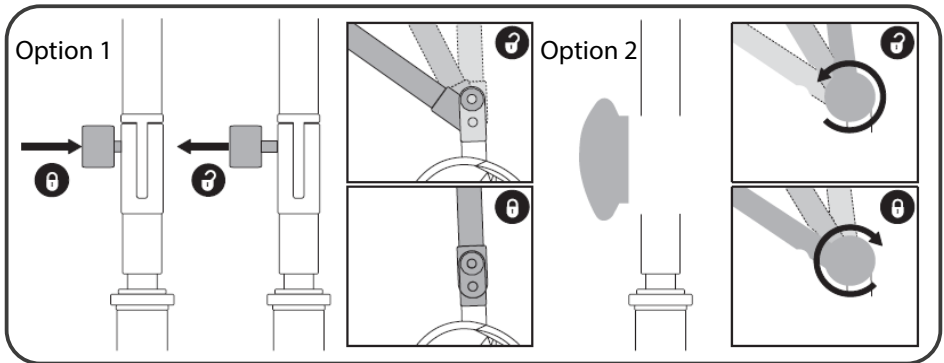

Figure 4. Steering column adjustment dial
1. After removing the seat and battery pack (see the removal procedure on the previous page), lower the steering column and tighten the steering column adjustment knob. See Figure 4.
3. Raise the steering column and fully tighten the steering column adjustment knob. See Figure 4.